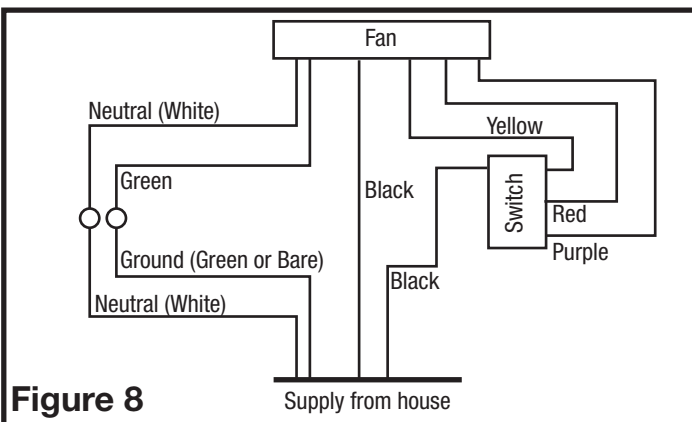

Figure 8
2. Connect the White wire of the fan to the White (Neutral) wire from the power source. Connect the Black wire of the fan to the Black (Hot) wire from the power source. Connect the ground wire from the house to the green wire from the fan housing. Using a properly grounded three function switch (not included) connect the Black wire from the supply to the switch. Connect the Yellow wire (fan) from the fan housing to one of the terminals on the switch. Connect the Red wire (light) from the fan housing to a separate terminal on the switch. Connect the Purple wire (night light) from the fan housing to a separate terminal on the switch (**Figure 8**). Use approved methods for all connections.